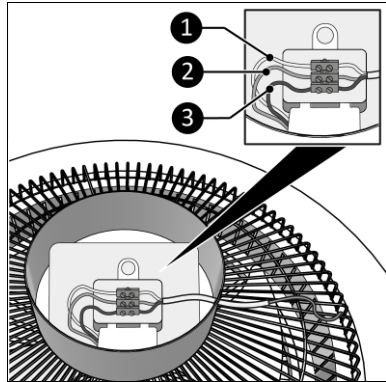

Figure 8
- Brown wire: live (Figure 8, pos. 3);
- Yellow green wire: earth (Figure 8, pos. 2);
- Blue wire: neutral (Figure 8, pos. 1).